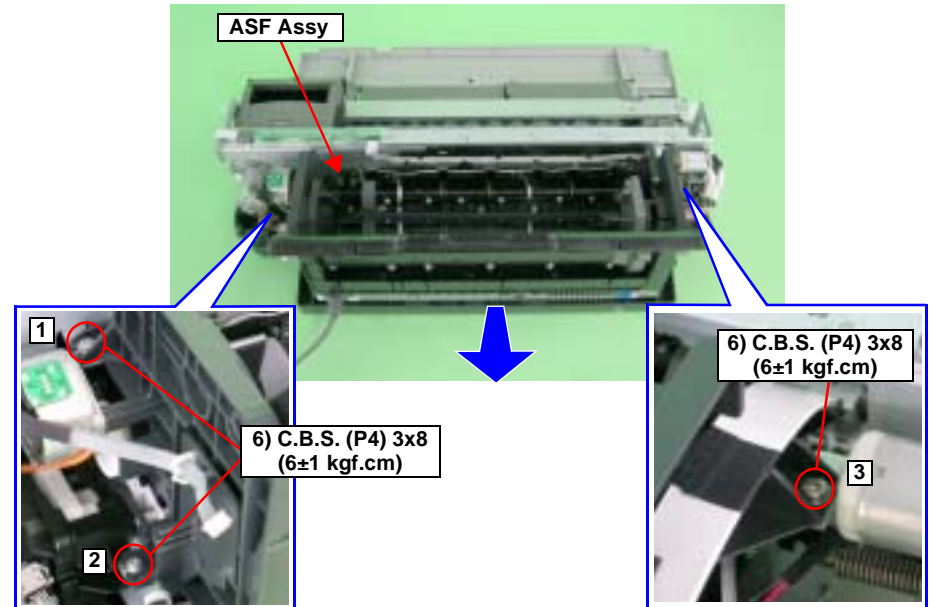

Figure 4-23. Removing the ASF Assy
- Tighten the screws in the order shown in Figure 4-23.